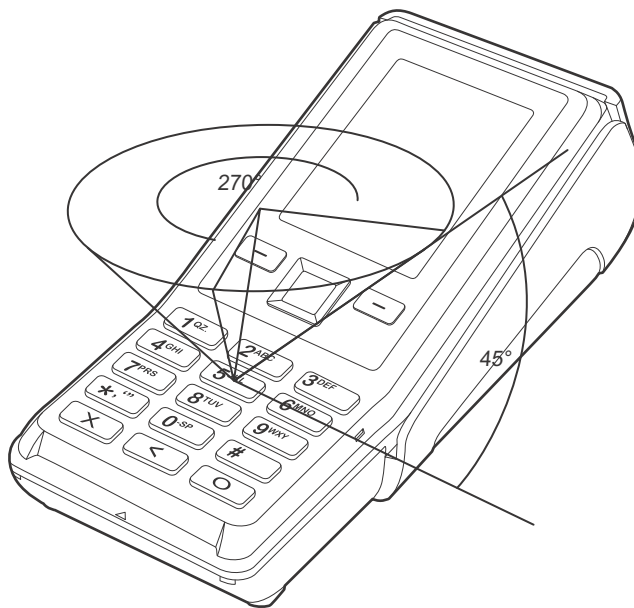

Figure 1
- The area of visibility should be no larger than a cone taken from the number 5 key at an angle of 45° and covering an area of 270° directly in front of the user, as shown in Figure 1.